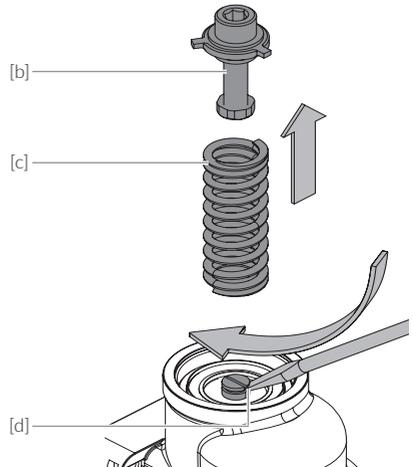

Fig. 9.7
- / Fig. 9.7: Remove adjusting screw unit [b] and spring [c]